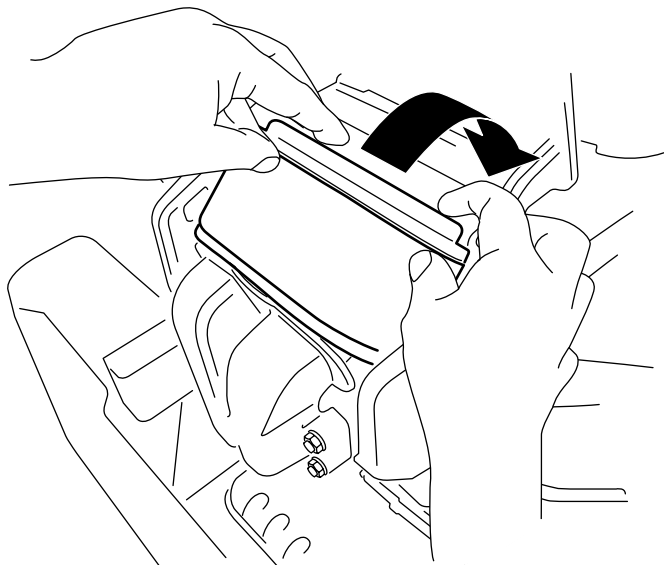

Figure 40
3. Rotate the filter down into the chamber and fully seat it against the manifold (Figure 40).